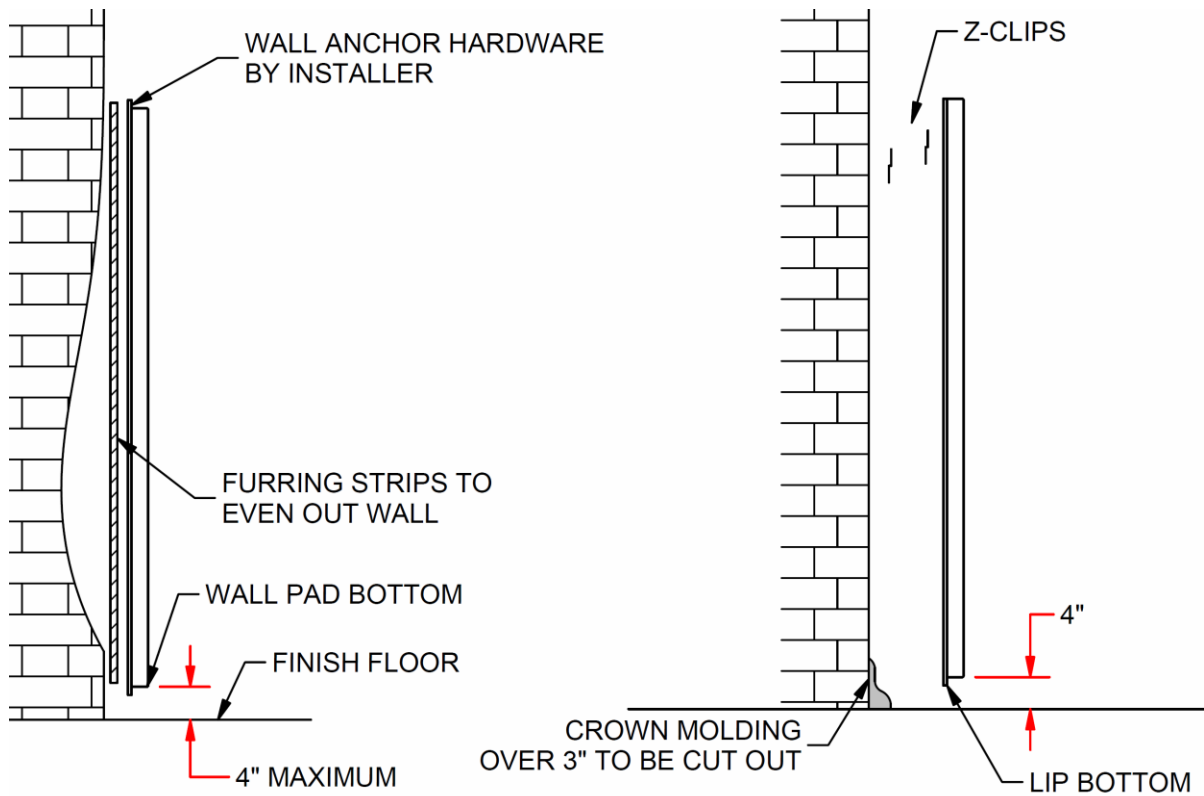

Figure 1
3. Figure 1 illustrates how to cut the vinyl (dotted line).